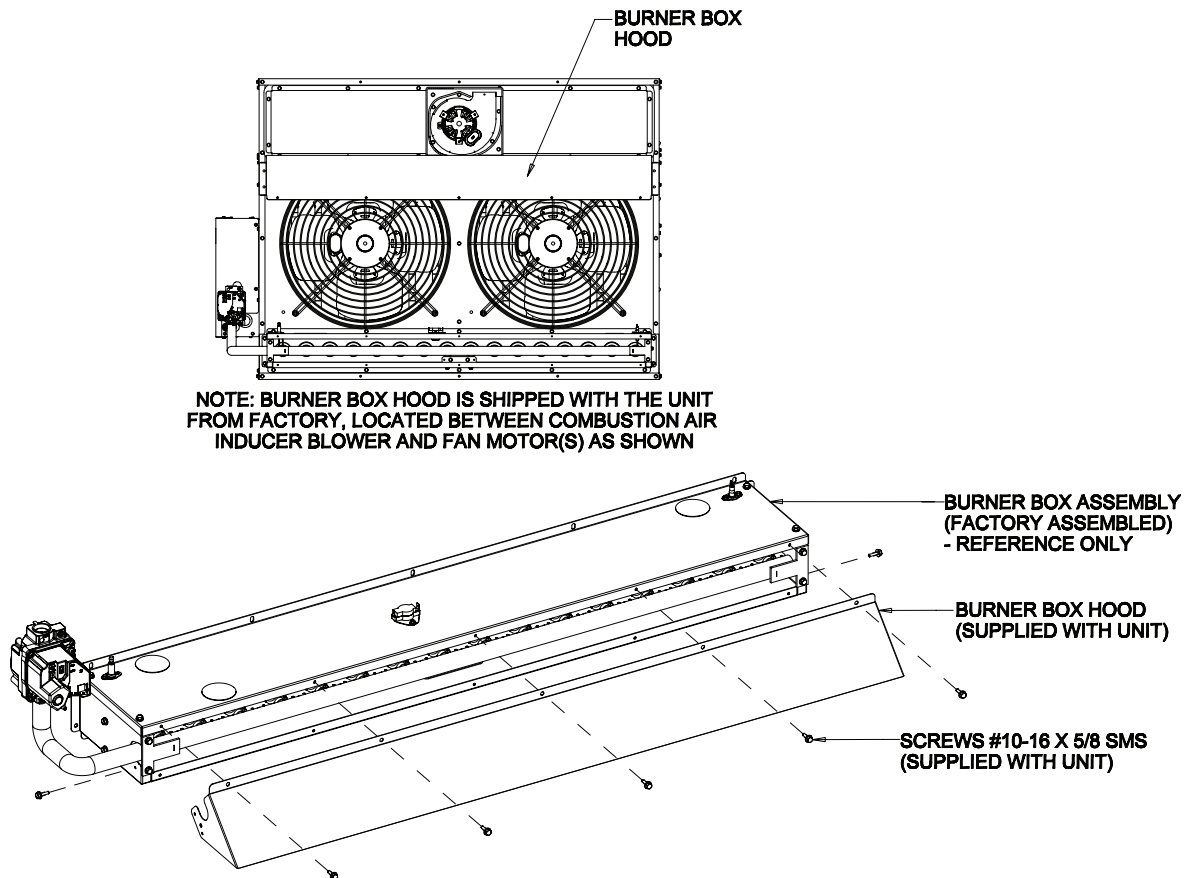

FIGURE 1
- 8 - Install the burner box hood. See figure 1.